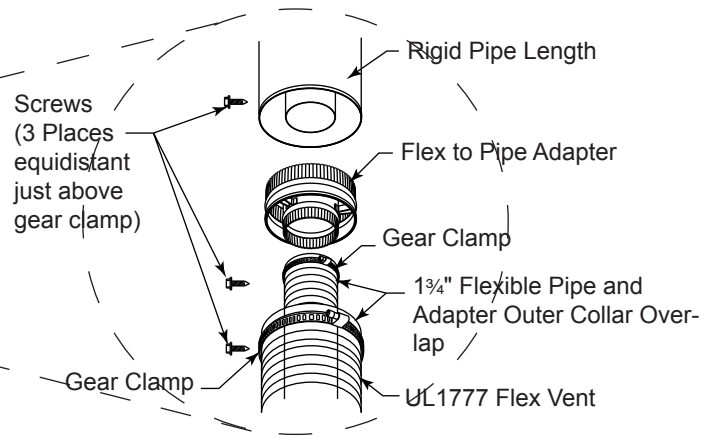

Figure 39 - Typical Pipe Connection
2. Review *Figure 39* and corresponding instructions for proper overlap, clamp and screw placement.